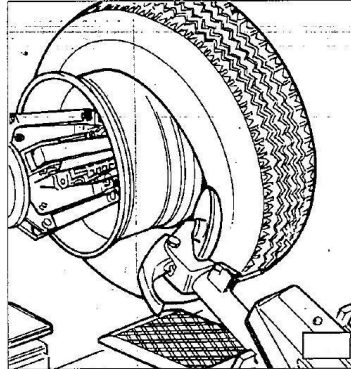

Fig.7.5
1) If the tyre is not difficult to demount, once the beads have been loosened, use the bead disk to push against the inside plane of the tyre until both beads come off the rim (See Fig.7.5).